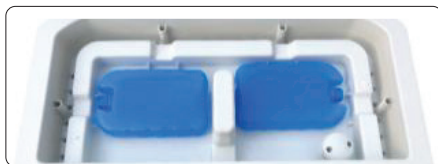

Figure 1
- As shown in Figure 1, you may add clean water either through the top opening or directly into the water bucket/tank.